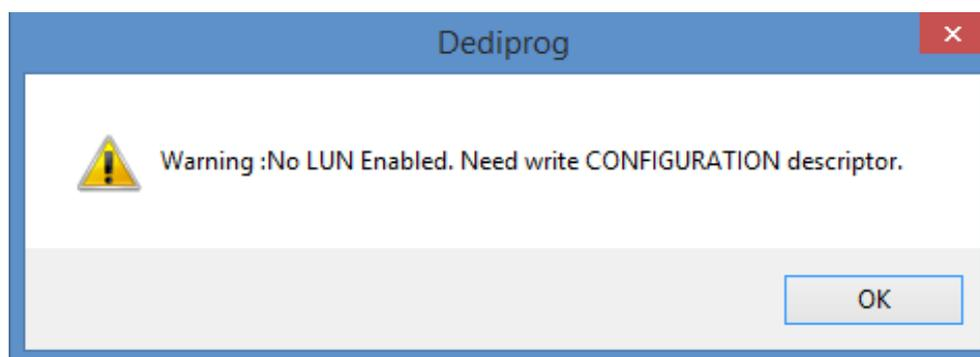

Fig. 5-41
Step 2. When you see a warning message shown as Fig. 5-41, please go to **Descriptors** in the **Config** window, set up the configuration descriptor dialogs, and then partition the UFS and the LUN.